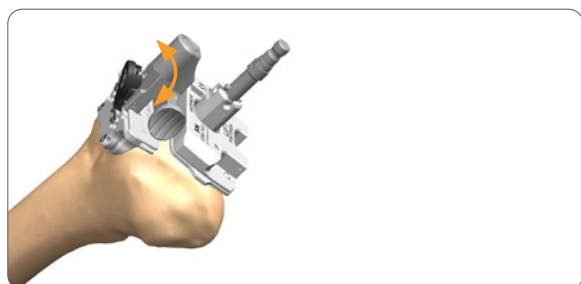

Figure 72
2. Slide the Intramedullary Rod of the Kinematic Alignment assembly and pivot the Distal Valgus Guide until both sides contact the distal femur (**Figure 72**). Contacting both sides of the femur ensures that the resection will match the implant thickness accounting for cartilage wear